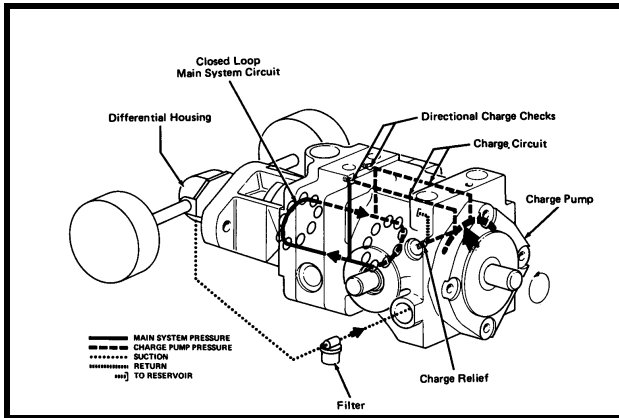

Figure 8
**Directional charge checks. (Fig 8)**